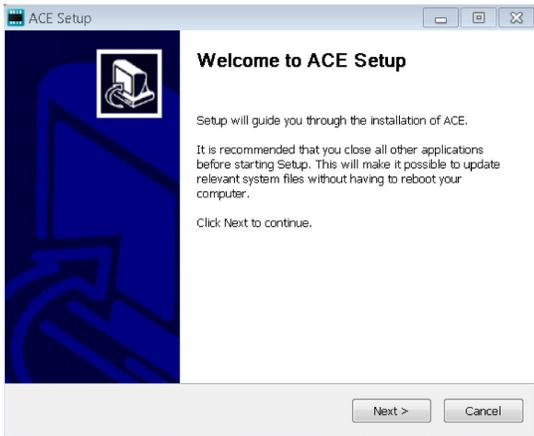

Figure 4. Evaluation Software Install Confirmation
4. Click Next > to continue the installation, as shown in Figure 4.